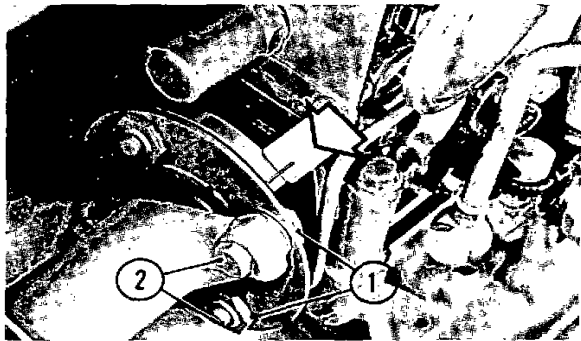
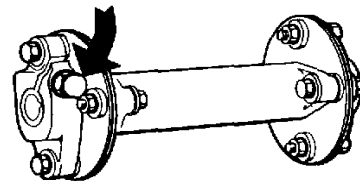

Fig. 116. Pump coupling
Fig. 121. Pump coupling, 120-series
3. Loosen the bolts (2, fig. 116) in the pump coupling. **NOTE!** The nuts (1) must be held still to avoid damaging the steel discs. Undo the pump attaching bolts and lift out the pump.
3. Turn the injection pump shaft in its correct direction of rotation until the marking on the pump coupling indexes with the marking on the plate as shown in fig. 116.
4. Fit the injection pump. Bolt the coupling together so that the markings correspond, see fig. 116. Secure by tightening the bolts (2) whilst holding the nuts still. **NOTE!** The 120-series does not have slots in the coupling. If the markings do not correspond, loosen the clamp screw at the front of the coupling (see fig. 121) and turn the coupling so that the markings come into alignment. Tighten the clamp screw securely.
10. Adjust the setting angle if necessary. On the 100-series the pump shaft can be rotated after loosening the pump coupling bolts. **NOTE!** The nuts must be kept still to avoid damaging the steel discs. On 120-series loosen the clamp screw, see fig. 121.